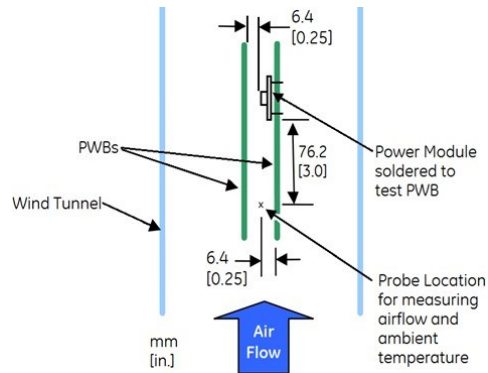

Figure 18. Thermal Test Setup
Increased airflow over the module enhances the heat transfer via convection. The thermal derating of figure 18–19 shows the maximum output current that can be delivered by each module in the indicated orientation without exceeding the maximum TH1 temperature versus local ambient temperature (TA) for several air flow conditions.